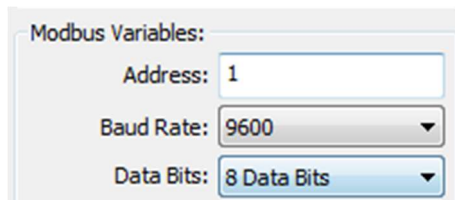

Figure 5.46 Modbus Selection of calibration values
1. Select "detailed Design"-"Modbus variable"-"calibrate" corresponding to the drop-down box, support: odd check, even check, and no check, as shown in Figure 5.46